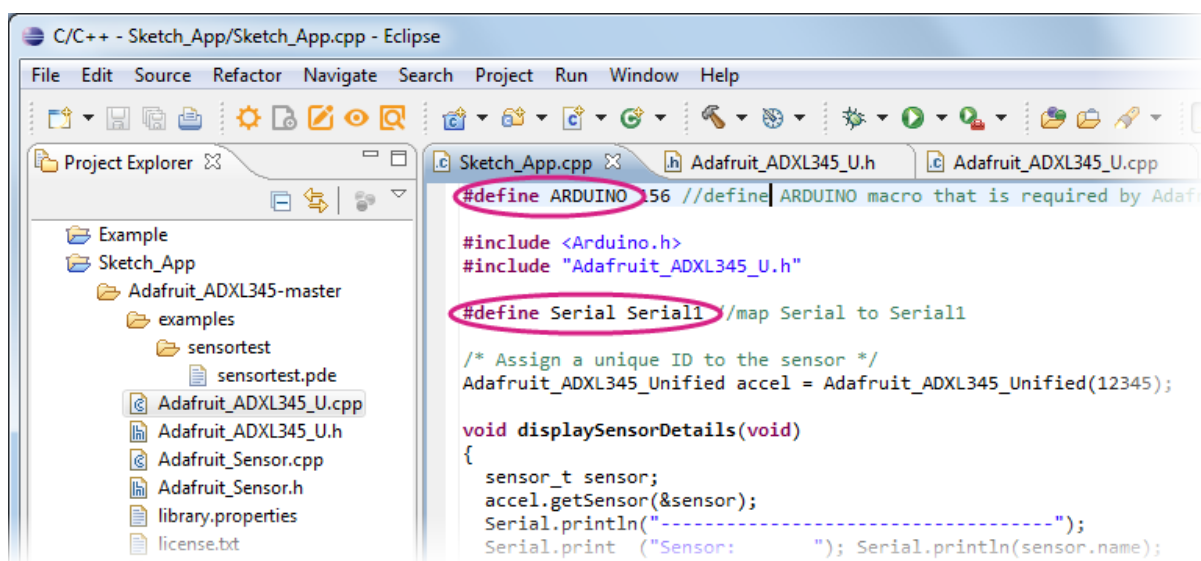

Figure 58 Adding the required #define statements
- b) Depending on the driver, you need to add or modify the `#define` statements required by the library. In the ADXL345 example shown in Figure 58, it requires an Arduino macro that isn't present in the LinkIt Assist 2502 SDK, so you need to add it manually in the `Sketch_App.cpp`.